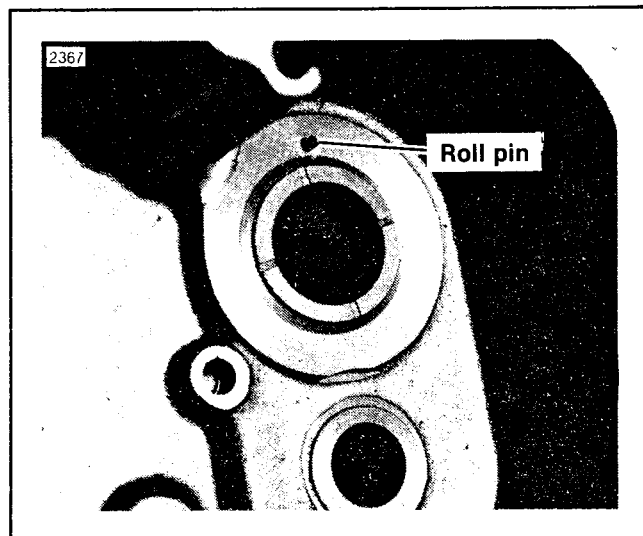

Figure 3. Crankcase Roll Pin
*When using the new configuration of mainshaft 1st gear, Part No. 35277-52A in crankcases having a rollpin above the mainshaft bore, the rollpin must be removed and circular thrust washers used. Refer to Service Bulletin M-870A and Figure 3.*